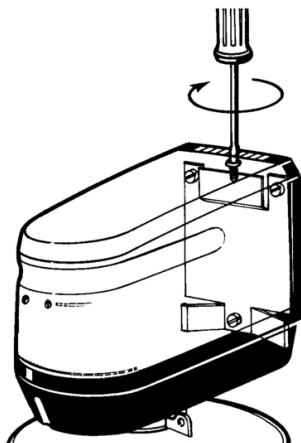

Fig. 9: Fastening on the wall mounting
4. Install the water meter (see B, Figure 9) on the rotary flange fitting (fastening principle, see chapter 3.5.1).